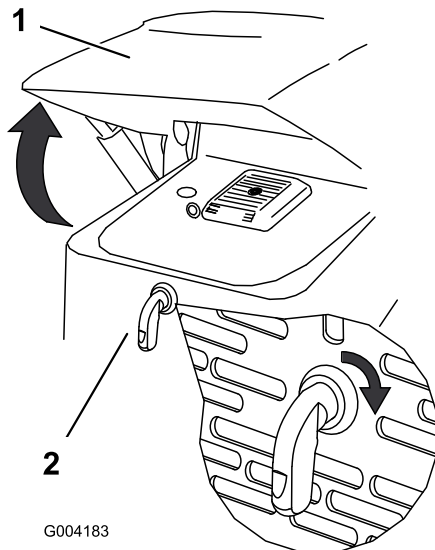

Figure 16
1. Turn the hood latch clockwise (Figure 16).
2. Swing the hood up (Figure 16).